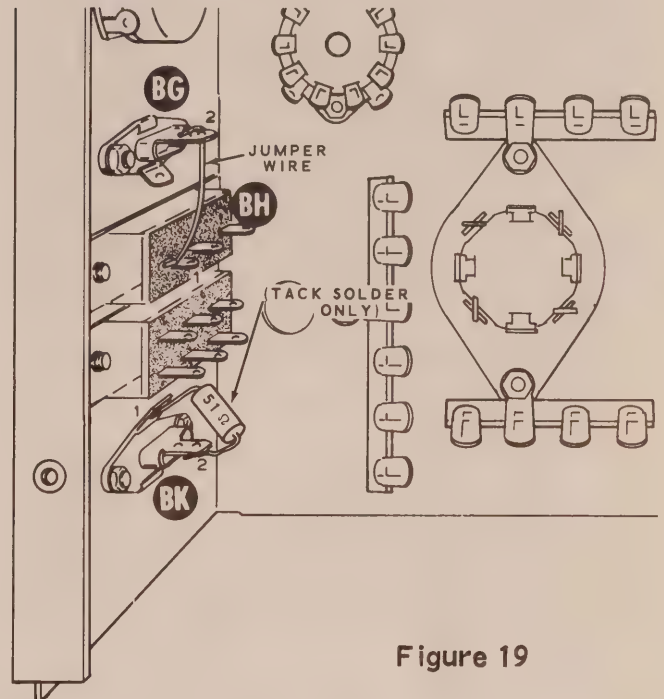

Figure 19
- ( ) Refer to Figure 19 and temporarily connect a short jumper wire from lug 1 of the HAM SCAN-SPECTRUM ANALYZER slide switch (BH) to the center lug of the IF INPUT phono socket (BG).
- ( ) Again refer to Figure 19 and temporarily connect one lead of a 51  $\Omega$  resistor from the center lug of the RF INPUT phono socket to its ground lug (BK).